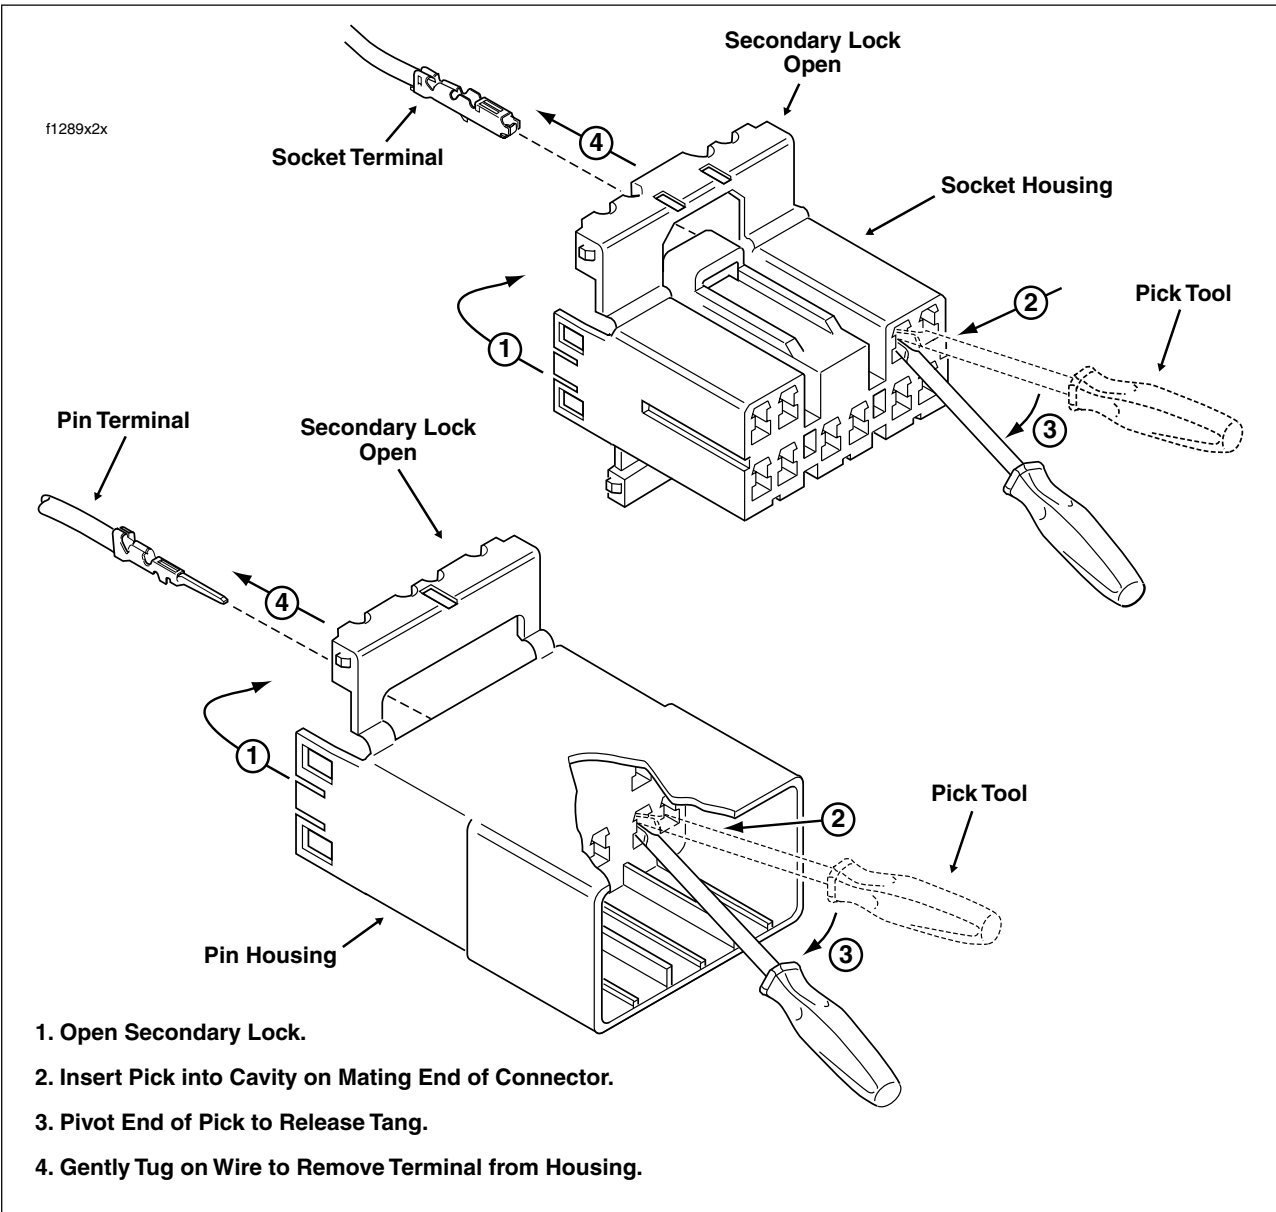

Figure 8-28. Release Tang and Back Out Terminals
5. See Figure 8-28. With the flat edge against the terminal, insert the pick (Snap-On TT600-3) into the cavity until it stops. Pivot the end of the pick away from the terminal and gently tug on wire to pull terminal from chamber. Do not tug on the wire until the tang is released or the terminal will be difficult to remove. A "click" is heard if the tang